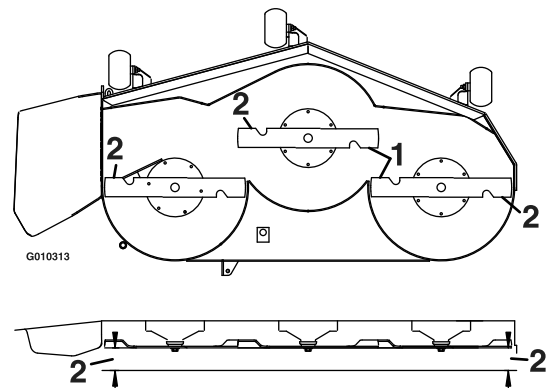
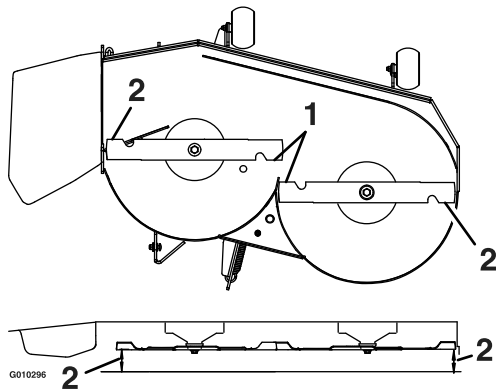

Figure 40
Figure 41
- Measure between the outside cutting edges and the flat surface (Figure 40 and Figure 41). If both measurements are not within 3/16 inch (5 mm), an adjustment is required; continue with this procedure.
8. Carefully rotate the blades side to side (Figure 40 and Figure 41).
9. Loosen the leveling adjust locking nuts (item 4) on all four corners so that the deck is sitting securely on all four blocks. Make sure that the deck hangers are all the way down (at the top of the slot) and the deck lift foot lever is pushed back against the stop, then tighten the four leveling adjust locking nuts